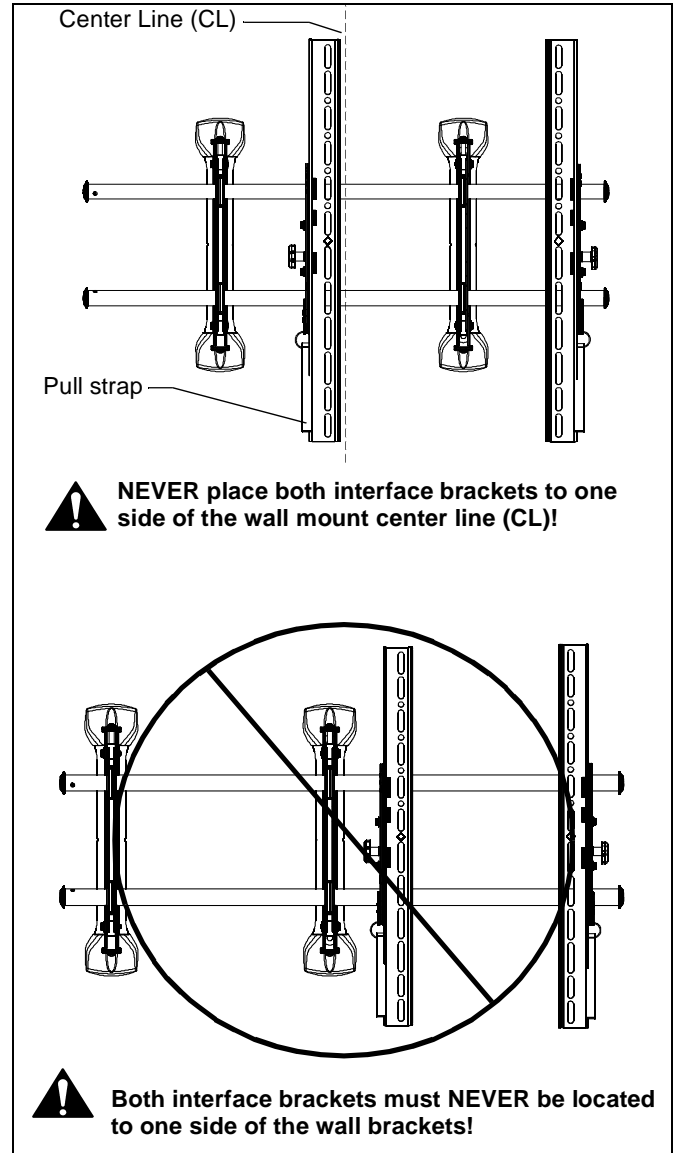

Figure 8
2. Adjust Velcro® pull strap (if necessary) so it does not extend beyond bottom of screen. (See Figure 8)
NOTE: NEVER place both interface brackets to one side of the wall mount center line! (See Figure 8)
NOTE: Do NOT allow both interface brackets to be located on same side of wall bracket. (See Figure 8)